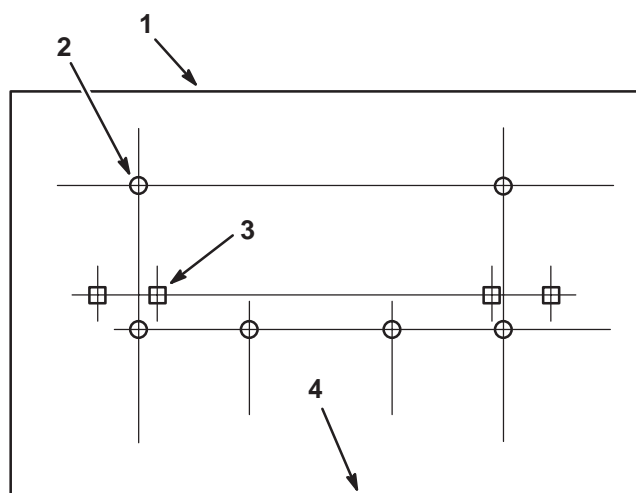

Figure 2
5. Align the square holes in the drill template with the square holes in the deck. Mark and drill six (6) 11/32" (9 mm) holes in the top right-hand surface of the mower deck (Fig. 2).